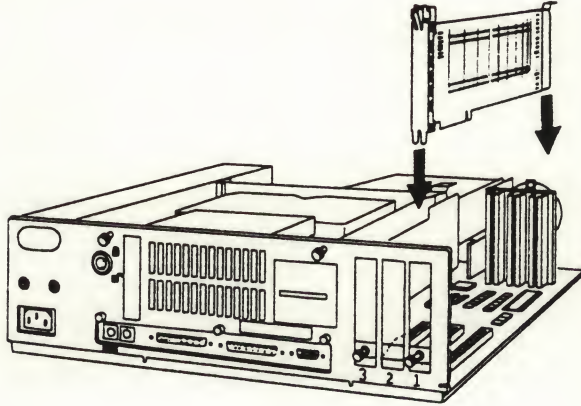

Figure 3-19 Installing the Tape Controller Card in the Model 50
8. Install the tape controller card into your expansion slot as shown in Figure 3-19.